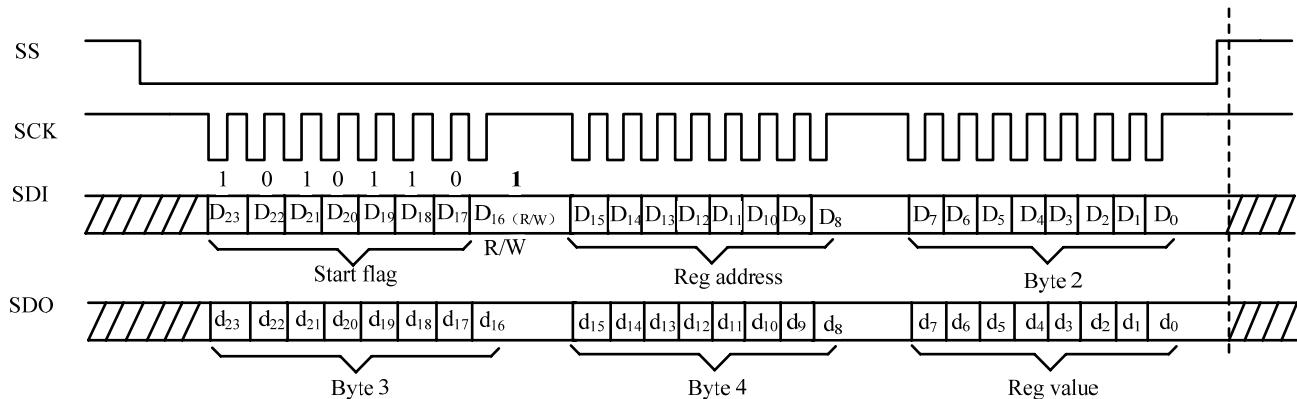

Figure 8 SPI Read Internal Register
Register read packet is shown in Figure 8. First, the SPI master sends Start flag (1010110) and R/W (1) bit followed with a Reg address, and then BF6921A will send Reg value corresponding to specified Reg address on the SDO line. Byte 2, Byte 3, Byte 4, will also be sent in read mode ($R/W=1$), but they are insignificant.